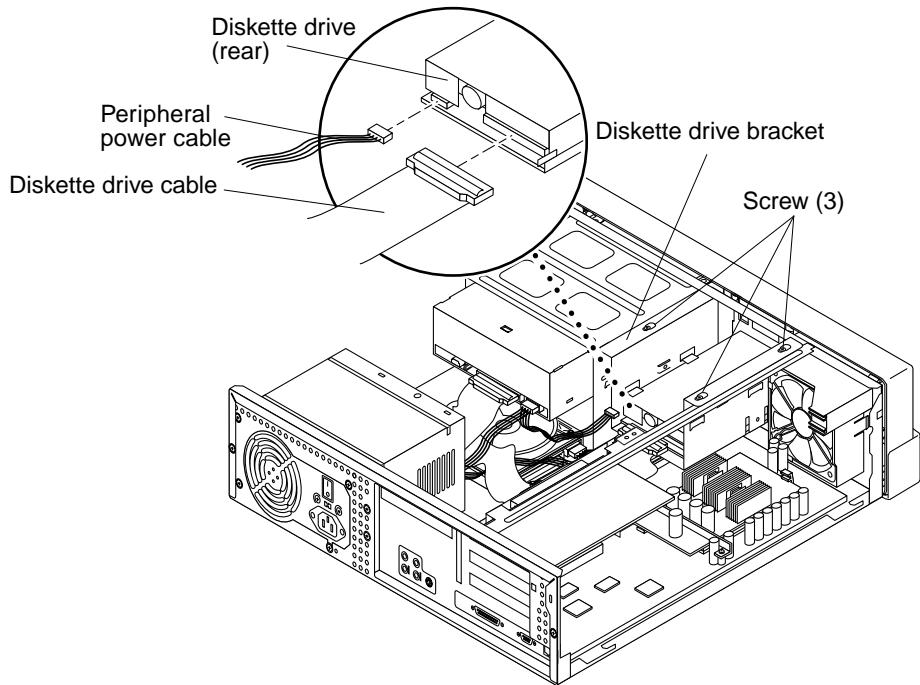
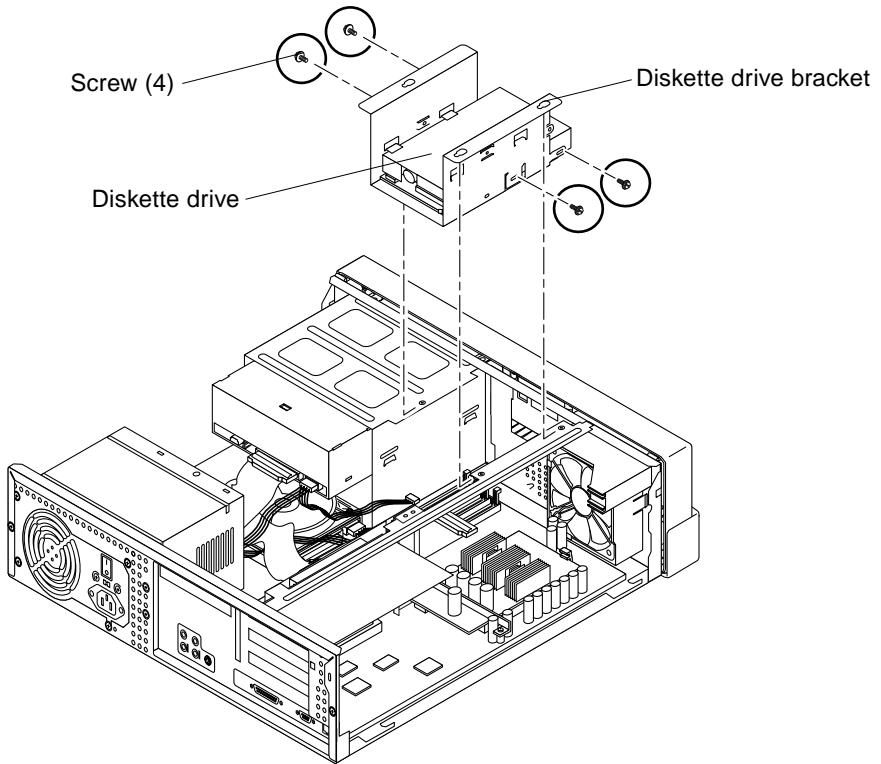

FIGURE 7-1 Removing and Replacing the Diskette Drive, Part 1
FIGURE 7-2 Removing and Replacing the Diskette Drive, Part 2
- i. Using a No. 2 Phillips screwdriver, loosen (but do not remove) the three screws securing the diskette drive bracket to the chassis (see FIGURE 7-1).
- i. Place the diskette drive bracket back in position, aligning the three holes in the bracket with the three securing screws on the chassis (see FIGURE 7-1).
i. Place the diskette drive bracket back in position, aligning the three holes in the bracket with the three securing screws on the chassis (see FIGURE 7-1).
2. **Remove the diskette drive as follows (FIGURE 7-1 and FIGURE 7-2):**
1. Replace the diskette drive as follows (FIGURE 7-1 and FIGURE 7-2):